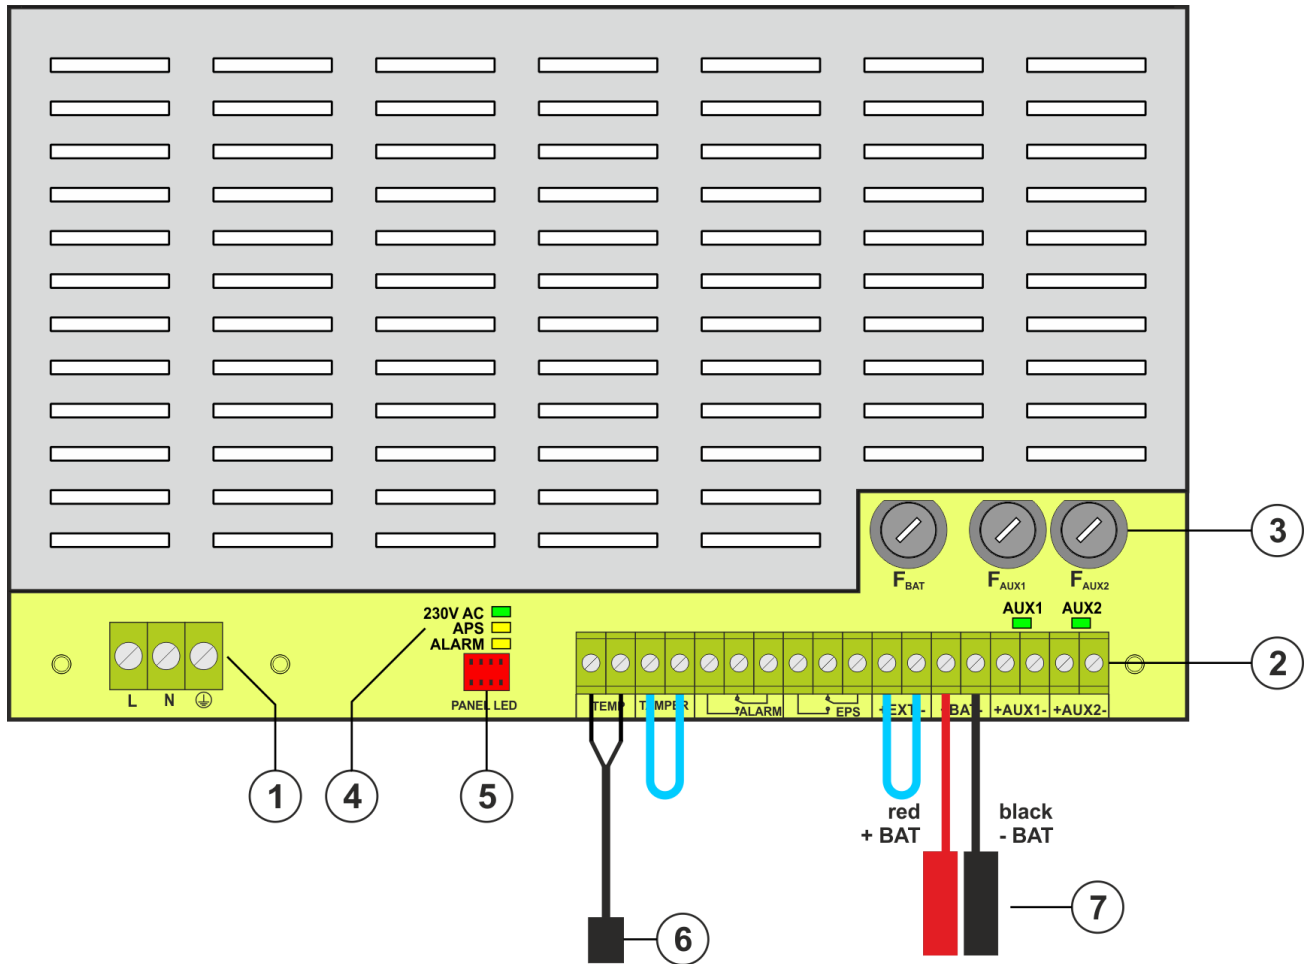

Fig. 2. The view of the power supply module based on the EN54C-2A7.
Table 1. Elements of the PSU (Fig. 2).
2	<p>Terminals:</p> <p>TEMP – input of the battery temperature sensor</p> <p>TAMPER – input of the microswitch tamper Closed input = no indication Open input = alarm</p> <p>ALARM – technical output of collective failure of the PSU - relay type</p> <p>EPS – technical output of AC power failure indication open = AC power failure closed = AC power - O.K.</p> <p>EXTi – external failure input Closed input = no indication Open input = alarm</p> <p>+BAT- – terminals for connecting the battery</p> <p>+AUX1- – AUX1 power output (- AUX=GND)</p> <p>+AUX2- – AUX2 power output (- AUX=GND)</p> <p>CAUTION! In Fig.2 the set of contacts shows a potential-free status of the relay, which corresponds to power supply failure.</p>
①	PSU (tab. 1, Fig. 2)
②	Battery temperature sensor
③	Battery connectors; positive: +BAT = red, negative: - BAT = black
④	Place to install the EN54C-LB4 or EN54C-LB8 fuse module
⑤	TAMPER; microswitch (contacts) of antisabotage protection (NC)
⑥	Fitting battery
⑦	Embossing for cable gland
⑧	Embossings for concealed wires
⑨	Lock
CAUTION! In Fig.2 the set of contacts shows a potential-free status of the relay, which corresponds to power supply failure.